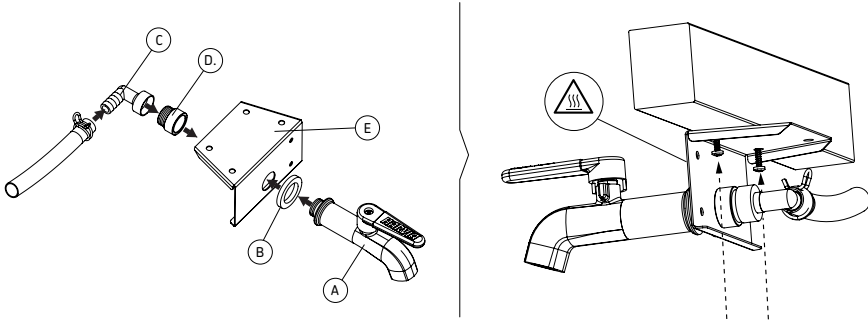

Figure 5.
B. Under the wooden part with a faucet fastener (Figure 5.)
1. Attach faucet (A), seal (B), clip (C), faucet extension (D) and faucet clamp (E) together, sealing to the faucet side.